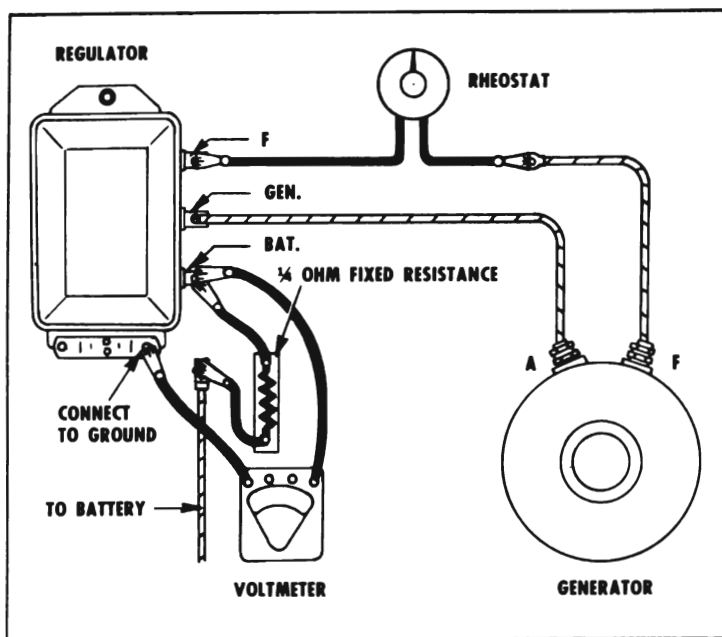

Figure 10-17—Testing Voltage Regulator
8. *Voltage Regulator Test.* Turn rheostat variable resistance to "OPEN" position and change one rheostat lead from ground to "F" terminal of regulator. Connect a $\frac{1}{4}$ ohm resistor (approximately 25 watts) into charging circuit at "Bat" terminal of regulator. See Figure 10-17.